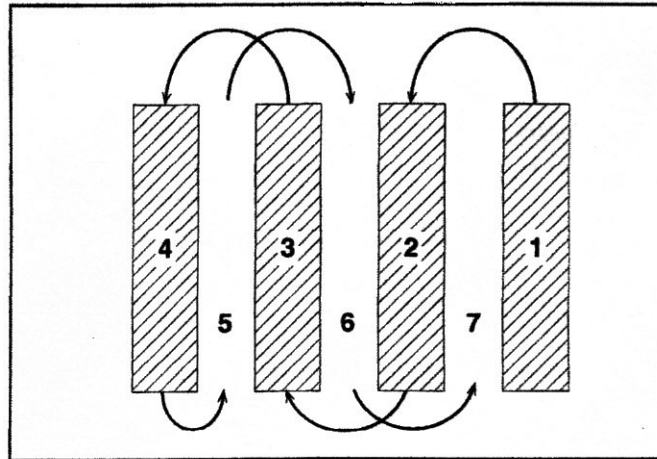

FIG. 15
- You will find tilling much easier if you leave a row un-tilled between passes. Then go back between tilled rows. (See Fig. 15) There are two reasons for doing this. First, wide turns are much easier to negotiate than about-faces. Second, the tiller will not be pulling itself, and you, toward the row next to it.